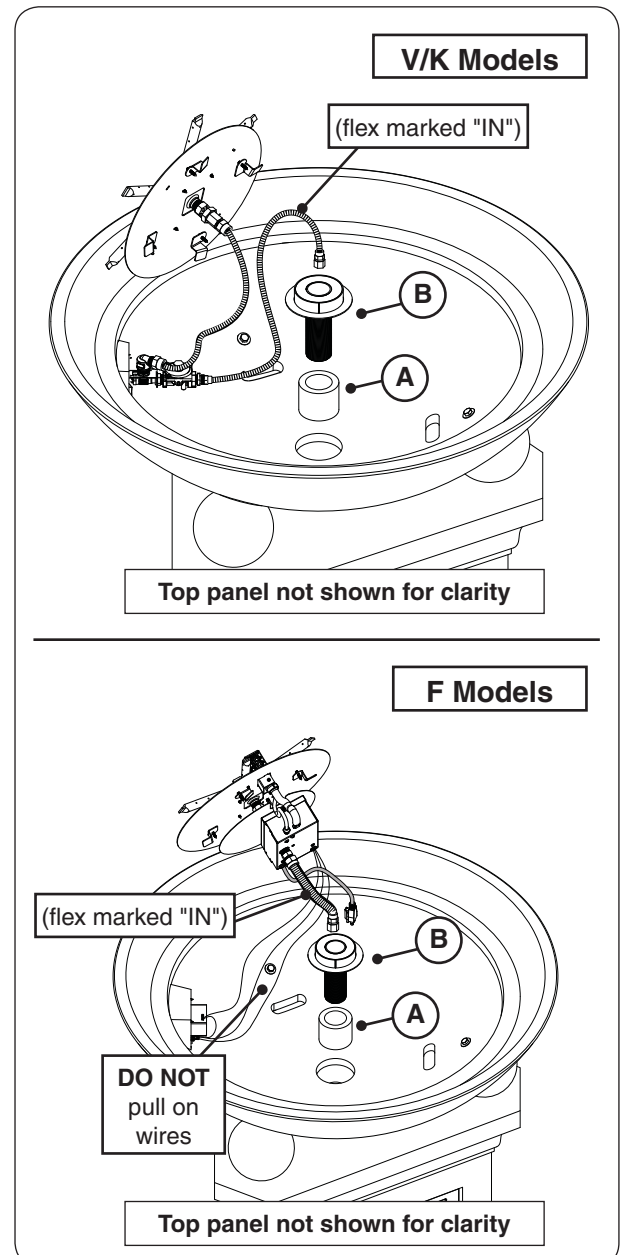

Fig. 27-1 Mount pedestal - insert conduit parts
2. From above the fire bowl, insert the conduit cover into the center opening of the fire bowl (see Fig. 27-1, A).
3. Insert the conduit mount into the cover (see Fig. 27-1, B).